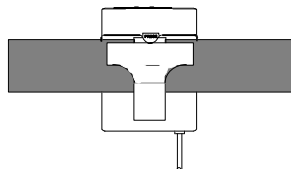

FIGURE 7
1. Attach the transmitter to your belt or guitar strap as shown in Figure 7. Depress the tab marked PRESS and slip the belt or strap between the transmitter body and the belt clip. The clip holds tighter if the material is drawn to the clip's top wire (especially when using thinner guitar straps).